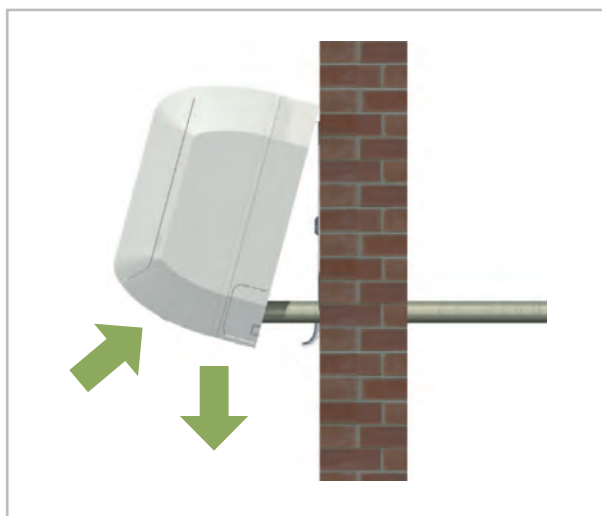

Fig. 14: Horizontal positioning
5. ➤ Check again that the unit is level. (Fig. 14)